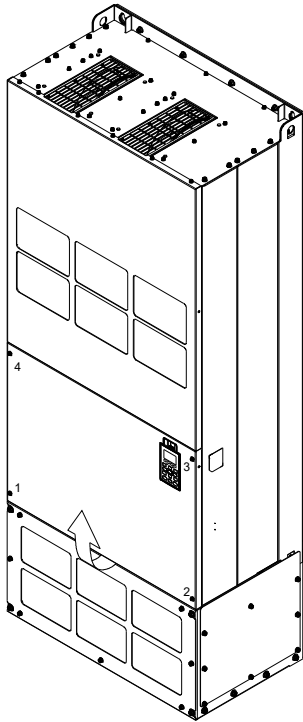

Figure 1
1. Loosen the screw 1~4 and remove the top cover (figure 1)